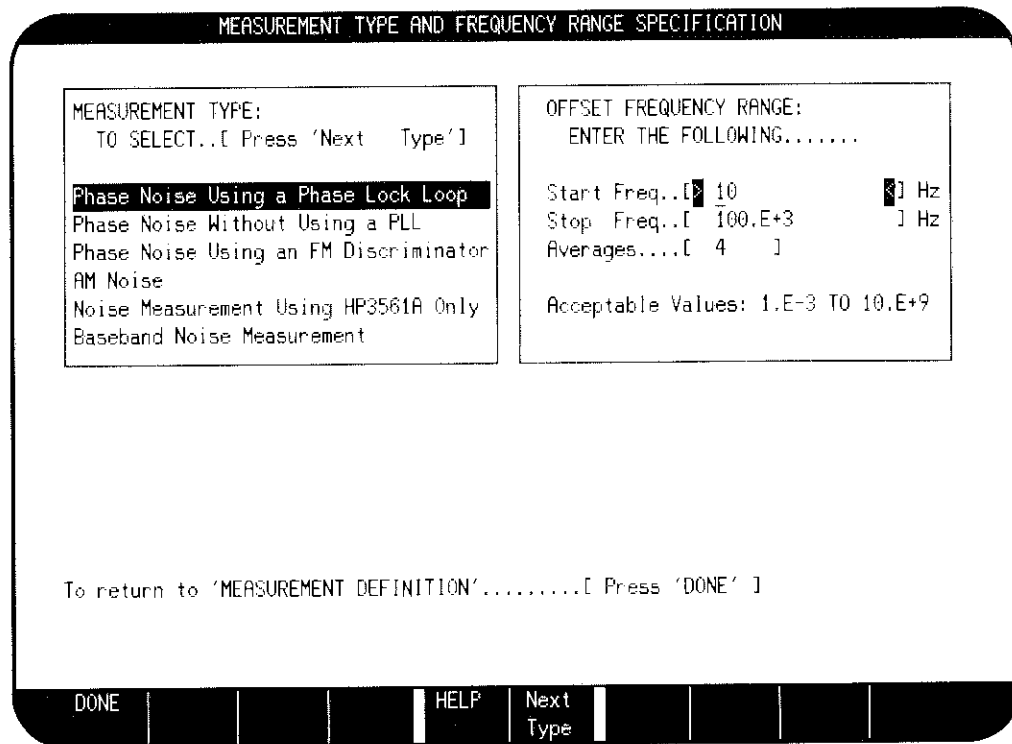

Figure 3-10. Measurement Type and Frequency Range Specification Menu
- On the HP 3048A press the **Type / Range** softkey to obtain the Measurement Type and Frequency Range Specification menu. Set the measurement type and offset frequency range as shown in figure 3-10. When done, press the **DONE** softkey.